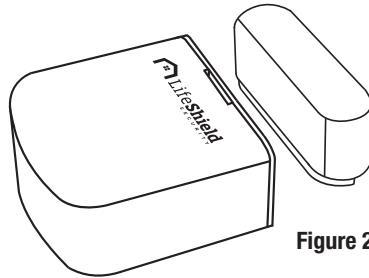

Figure 20. LifeShield Sensor
**Door Sensors** Can be armed Stay, Away and Instant. Stay and Away arming provide an entry delay. (Figure 20)
**Window Sensors** Can be armed Stay, Away and Instant. No entry delay is provided for Window **Sensors**. (Figure 20)
**Convenience Sensors** Do not generate alarms; however, chimes and notifications can be set on [www.LifeShield.com](http://www.LifeShield.com) to notify you when **Convenience Sensors** are opened. (Figure 20)